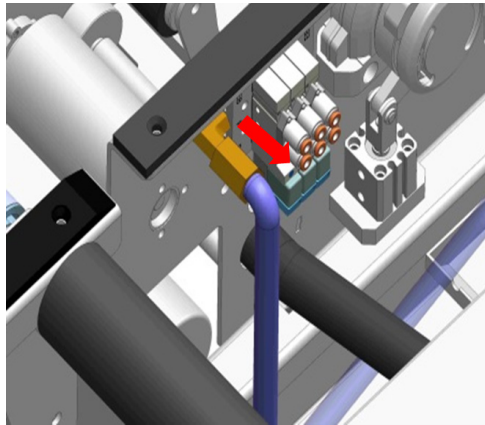

Figure 58: Quick Disconnect
5. Remove air quick-disconnect, (refer to Figure 58).